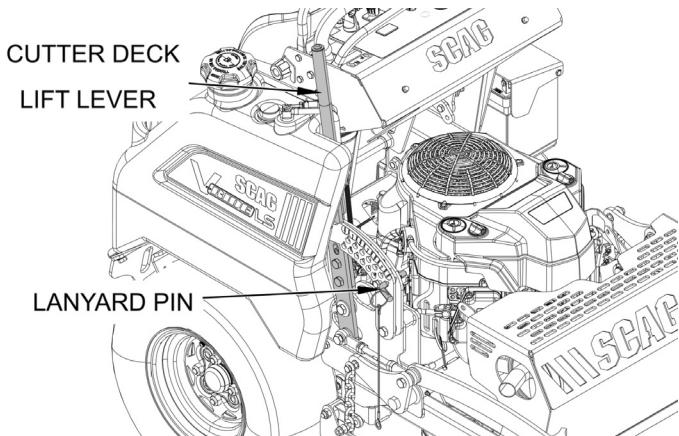

Figure 4-6. Adjusting Cutting Height
2. Pull the cutter deck lift lever all the way backward until it locks in place. See Figure 4-6.
4. Pull backward on the cutter deck lift lever and hold the lock button. See Figure 4-6.